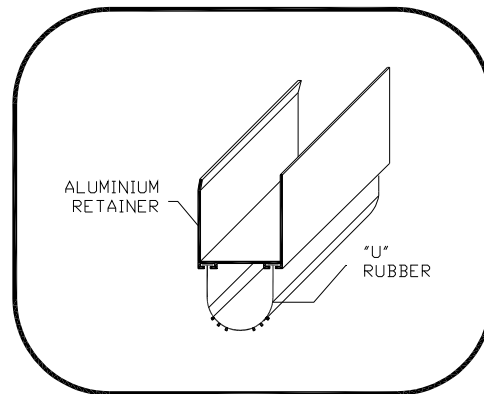

Figure 2
- Lay the bottom section (inside sheeting facing up) on two (2) wood-horses.
- Slide the U rubber seal into the aluminum retainer at the bottom of the section (figure 2).